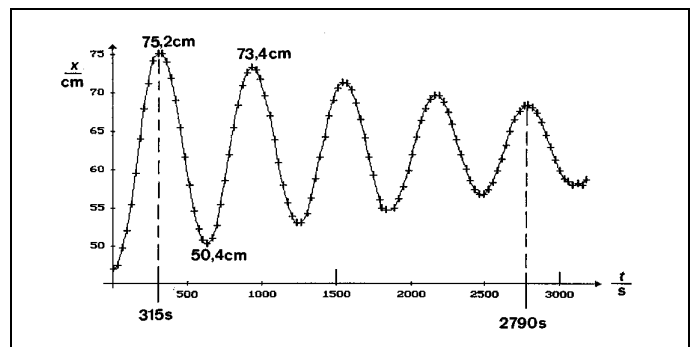

Fig. 7
Schwingungsdauer T (aus Fig. 7):
Oscillation period T (from Fig. 7):
- Assemble the torsion balance (with locked pendulum body) on a stand base which can be levelled (e.g. 300 01/06) in such a way that the back side is at the front; to ensure safe handling, support the protective tube with replacement torsion band (683 21) in a clamp (Fig. 7).